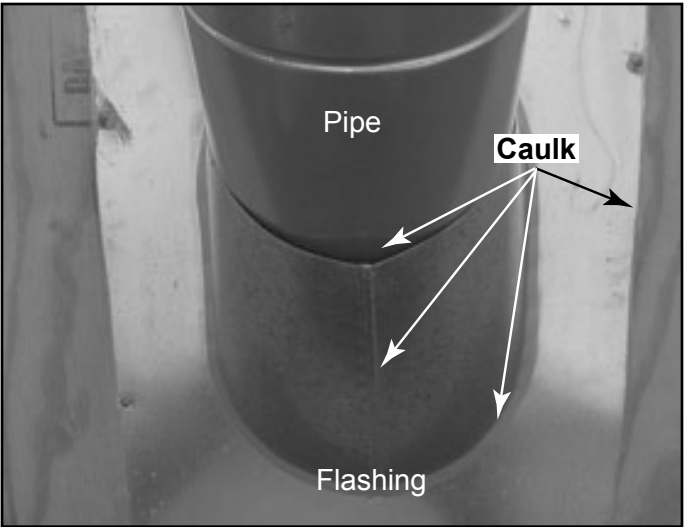

Figure 10.9
- Slide the roof flashing over the pipe sections extending through the roof as shown in Figure 10.9.
- Caulk the perimeter of the flashing where it contacts the roof surface. See Figure 10.9.